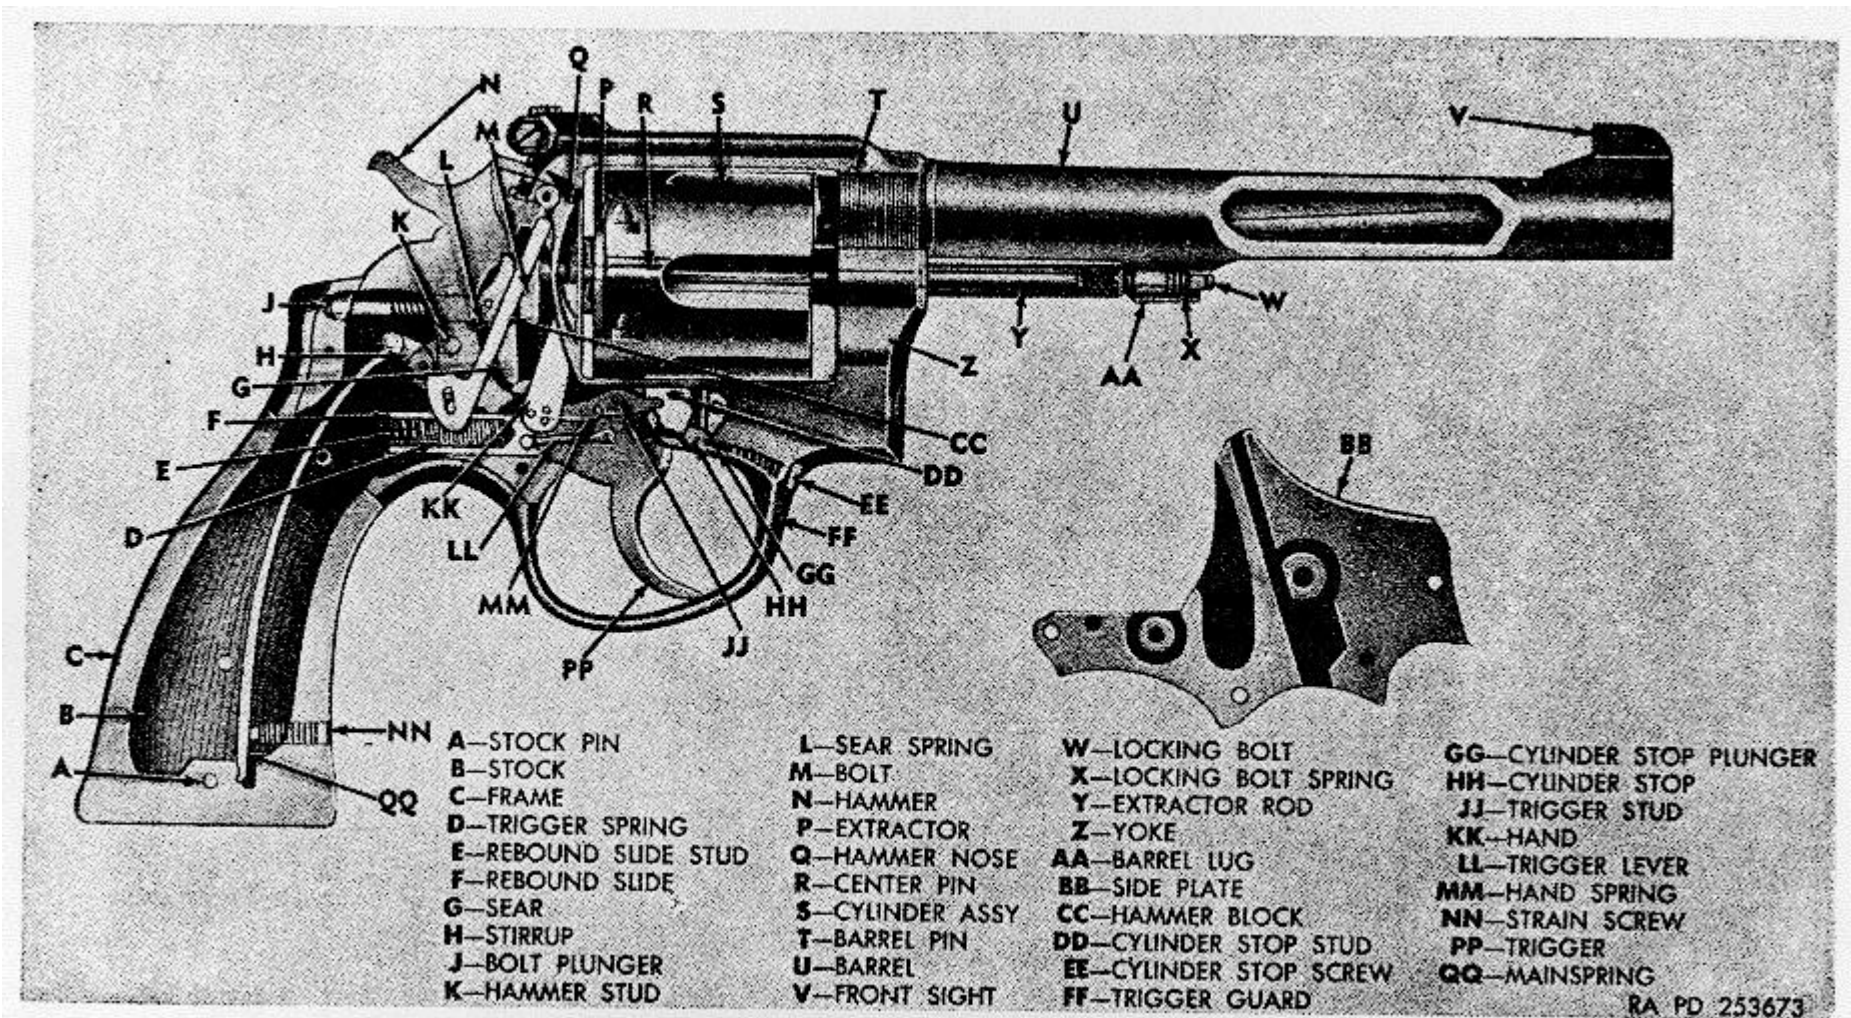

Figure 58. Cal. .38 special Smith and Wesson revolver K-8 (Masterpiece)-cross section view.
*Note.* The key letters shown below in parentheses refer to figure 58.
- b. Remove stock screw and stocks (B).
- c. Lift out hammer block (CC).
- d. Remove strain screw (NN). Depress top end of mainspring (QQ) and disengage stirrup (H) from mainspring hooks. Remove the mainspring.
- e. Pull back on thumbpiece and hold it to the rear. Pull hammer group back to the cocked position. With index finger of right hand, hold the trigger (PP) in the rear position and lift hammer group out. Release the trigger.
- f. Before attempting to remove rebound slide assembly, carefully lift its rear end away from the frame to clear the rebound slide stud (E), compressing the trigger spring (D) enough to relieve the tension against the rebound slide stud.
**Note.** The key letters shown below in parentheses refer to figure 58.
a. Inspect stock (B) for cracks, deep scars, or any defect which may affect serviceability. Replace stocks on which checkering is worn or smooth. Small cracks or chips, which do not affect the strength of the part, will not be cause for replacement. If unserviceable, replace stock.
b. Inspect the yoke assembly (Z) for alinement, looseness, and wear. Check that yoke number corresponds with number on frame and side plate.
c. Inspect cylinder assembly (S) for burs, pits, and other defects which may affect proper functioning. The cylinder is to be free of corrosion and powder fouling. Pits are allowed in the chambers, if they are not large enough to cause extraction difficulties.
d. Inspect extractor (P) and extractor rod (Y) for alinement, tension of extractor rod spring, and functioning of center pin.
e. Inspect mainspring (QQ) for cracks, burs, or wear. Inspect hooks, which engage the stirrup, for distortion. Replace mainspring if necessary.
f. Check that hammer nose is smooth and well rounded, and make certain that hammer pin hole is not elongated. Replace a worn or broken hammer (N).
g. Inspect trigger (PP) and trigger lever (LL) for wear, cracks, or breakage. Check trigger pull for single action, using test weights of 2 1/2 and 3 1/2 pounds. A 2 1/2 pound weight attached to the trigger should not release the sear, but with a 3 1/2-pound weight attached, the sear should release.
h. Check trigger spring (D) for corrosion and distortion. Replace a worn or broken spring. Replace a broken hand (K).
i. Check bolt plunger (J) and bolt plunger spring for wear or distortion; replace them necessary.
j. Examine thumbpiece, locking bolt (W), locking bolt spring (X), and locking bolt pin for burs, wear, or distortion. Replace them if unserviceable.
a. Install locking bolt spring (X) and locking bolt (W) with the flat surface up. Drive locking bolt pin into lug on the underside of barrel.
b. Install cylinder stop (HH) on its pin in the frame. Install cylinder stop plunger (GG), spring, and cylinder stop screw (EE).
c. Install hand spring torsion pin, hand spring (MM), and hand spring pin in the trigger (PP). Using a suitable screwdriver, exert upward pressure on the hand spring and install hand assembly (KK). Insert trigger lever (LL) into trigger and drive in trigger lever pin.
e. Install bolt plunger (J) and bolt plunger spring in recess in rear end of bolt.
f. Install bolt (M) in its recess in the frame by pressing the bolt plunger (J) forward.
h. Install stirrup (H) on hammer (N) and drive in stirrup pin. Install sear spring (L) and sear (G) on the hammer and secure them with the sear pin.
j. Put trigger spring (D) into the rebound slide (F) after compressing the spring. Install the rebound slide assembly against the retaining pin in the frame, with the leveled end forward, so the rear of the trigger lever is positioned in the blind hole in the forward face of the rebound slide.